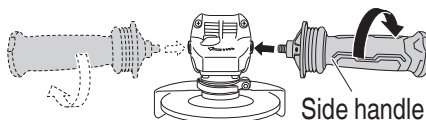

Fig. 10
1. Hold the grinder firmly by its housing and side handle (Fig. 10).